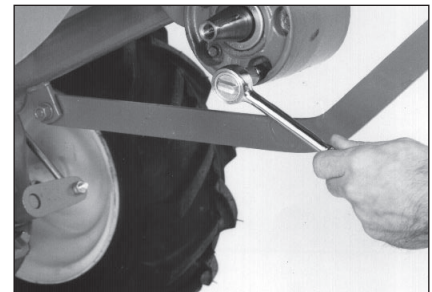

Figure 5-10: Remove housing cover screw to drain tine attachment transmission gear oil.
2. For complete drainage, remove the left-side tine assembly (refer to Bolo Tine Maintenance for instructions), then remove just one of the lower screws from the tiller housing cover (Figure 5-10). To speed drainage, remove the tine attachment dipstick to vent transmission.